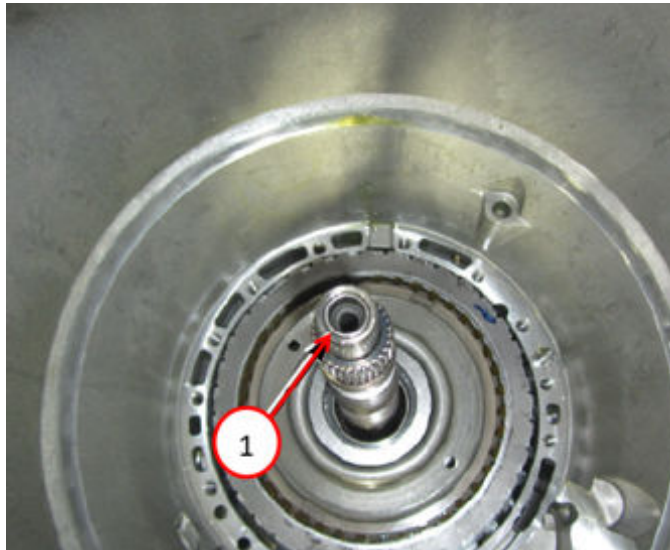

Fig. 34
54. Install the input/output shaft and P4 annulus drum assembly into the case Fig. 34.